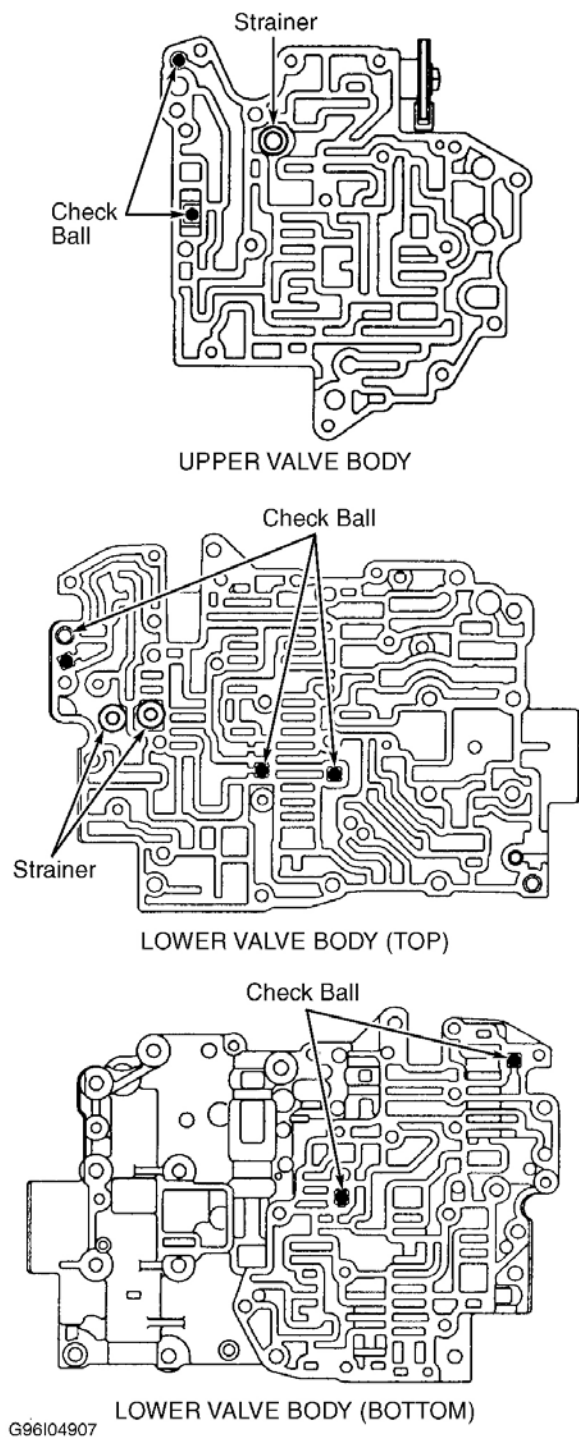

Fig. 44: Locating A-540H Valve Body Check Balls
1. Position NEW No. 1 gasket, No. 1 separator plate and NEW No. 2 gasket on upper valve body. For gasket identification, see **Fig. 43** . Ensure check balls are correctly installed. See **Fig. 44** . Place upper valve body with No. 1 plate and gaskets on lower valve body.